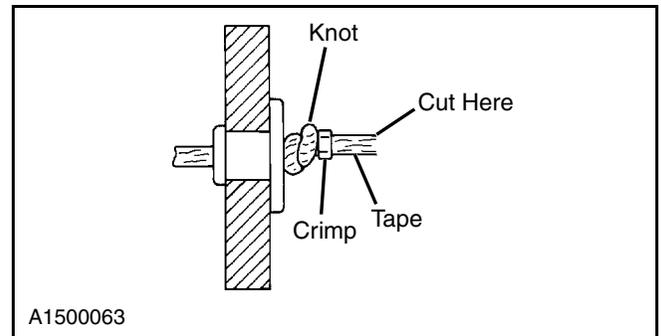

Figure 38
12. Install a crimp next to the knot. Lock the crimp in place by crimping the two sides with a side cutter or other suitable tool. (See Figure 38.)